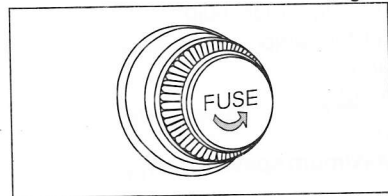

Fig. 6
**An 8 Amp fuse** (on spare wheel bracket, fig. 6 & 7) is provided to avoid any damage due to short circuiting in auto start system.